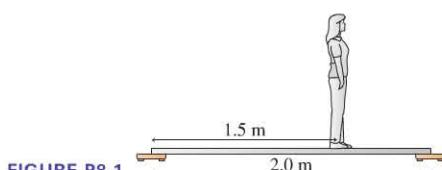

FIGURE P8.1
1. II A 64 kg woman stands on a very light, rigid board that rests on a bathroom scale at each end, as shown in Figure P8.1. What is the reading on each of the scales?
2. II Suppose the woman in Figure P8.1 is 54 kg, and the board she is standing on has a 10 kg mass. What is the reading on each of the scales?